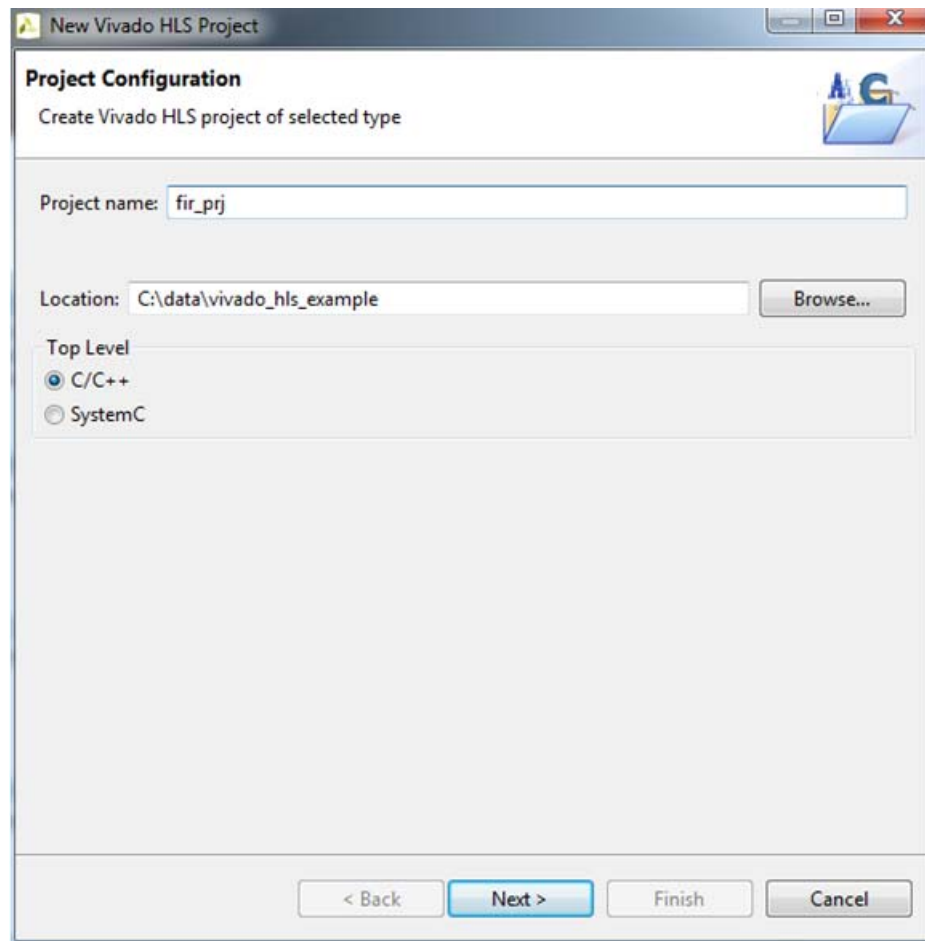

Figure 3-2: Project Configuration
2. Set the project name to `fir_prj` (Figure 3-2)
3. Click **Next** to set the location for the project (Figure 3-2)